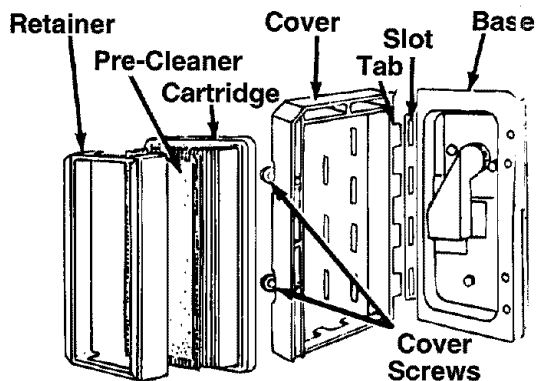

FIGURE 15.
- Loosen air cleaner cover screws. Remove cover and air cleaner assembly from base. See figure 15.